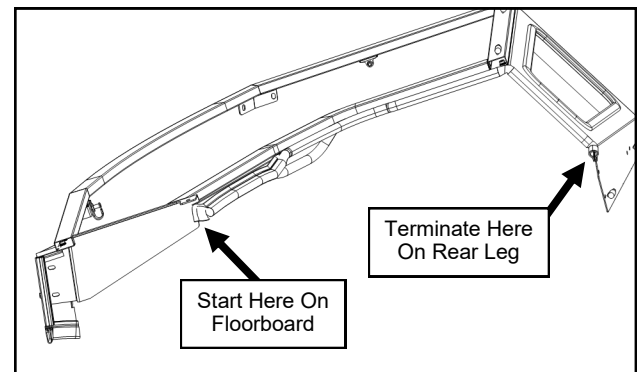

Fig. 7.3 (Side Frame - Rear Leg Sealing Bulb)
- 7.3 Install 1" bulb rubber to the side frame assembly; starting at the floorboard, continuing on to the rear leg as shown in Figure 7.3. **Note: Ensure the bulb rubber's grip is fully seated along the entire length and cut to length.**